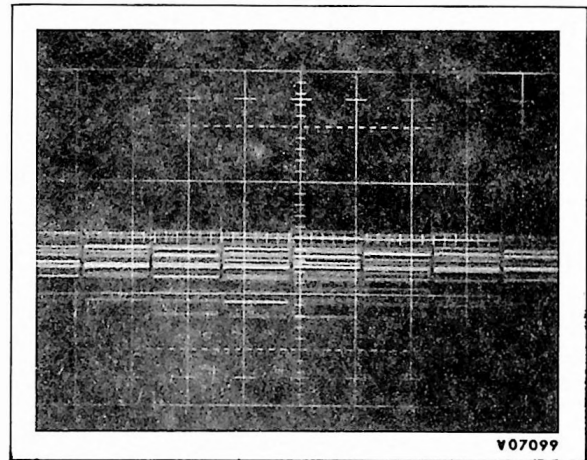

Figure 5.2-18. Line Slope Display
- o. Adjust resistor R44 for zero slope (flattest line-to-line voltage). See Figure 5.2-18.